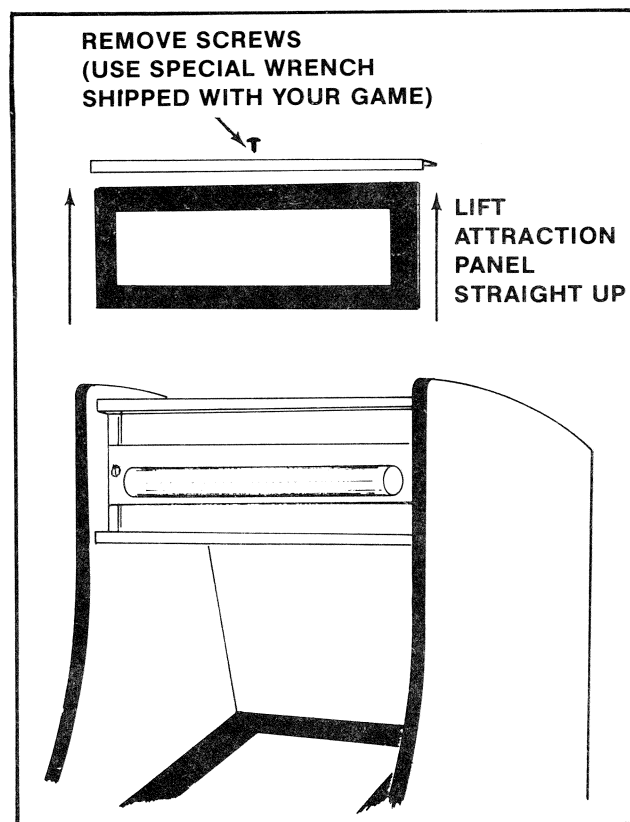

Figure 20 Removing attraction panel — Upright game
1. UPRIGHT MODEL: See Figure 20.
Remove the screws which secure the top bracket in place. (They are on its top side.) See Figure 20.
Remove the top bracket and slide up the attraction panel. This exposes the attraction panel fluorescent light tube and its mounting bracket assembly. See Figure 20.